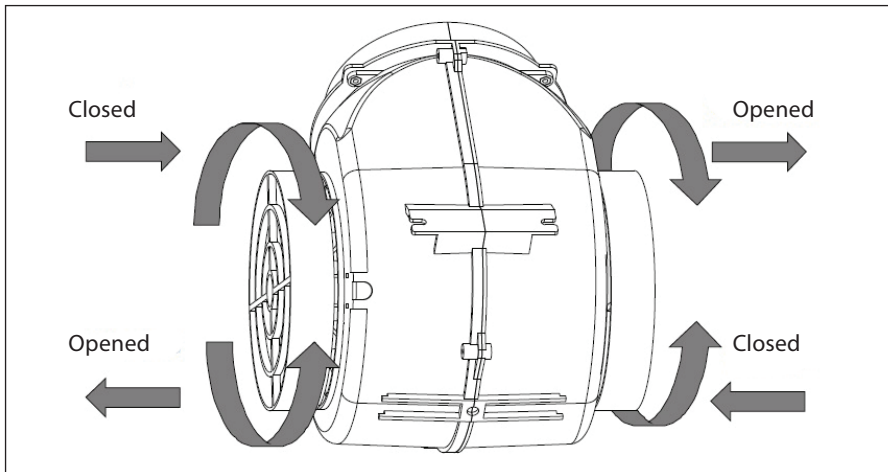

Fig. 2
2.The charcoal filters are situated on both sides of the motor. Turn the filters, until they are secured (see Fig. 2).